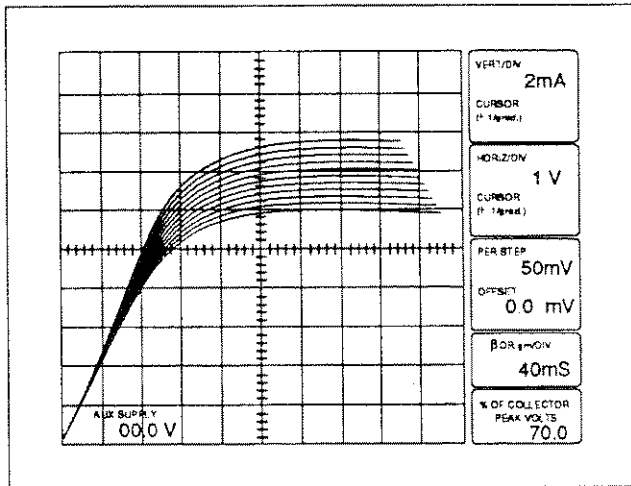

Figure 3-11. Display of FET common-source characteristic curves:  $I_D$  vs  $V_{DS}$  for 10 steps of gate voltage.
27. Turn the VARIABLE COLLECTOR SUPPLY control slowly clockwise. Note the display of drain current vs drain-source voltage with voltage steps applied to the gate (see Figure 3-11). Since the steps applied to the gate are positive-going, the curves displayed represent enhancement mode operation of the FET. (Set number of steps to zero to display the curve obtained with zero volts applied to the gate, then set number of steps to 10.)